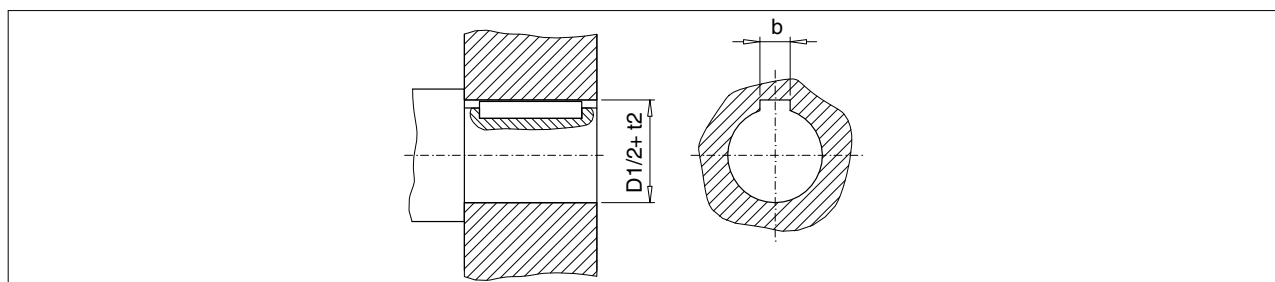

Fig. 2: Shallow keyway in TAPER clamping bushes
- 2) Some bores are machined with a shallow keyway, see fig. 2 and table 2.